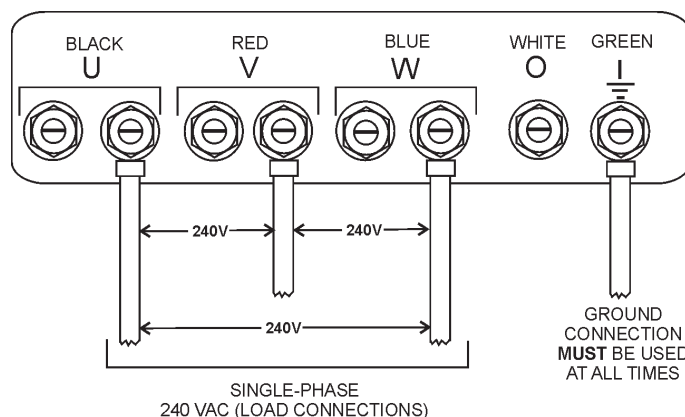

Figure 24. UVW Terminal Lugs
2. Connect the load wires to the UVW terminals as shown in Figure 24.